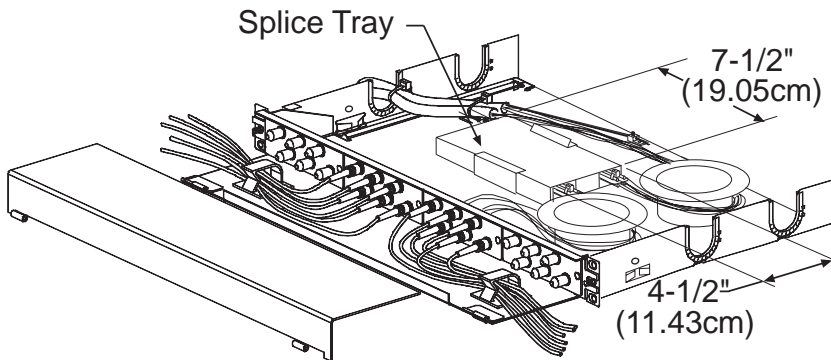

Fig. 5
- 3.4 If splicing is required allow room for splice tray. Refer to Fig. 5 for splice tray dimensions.